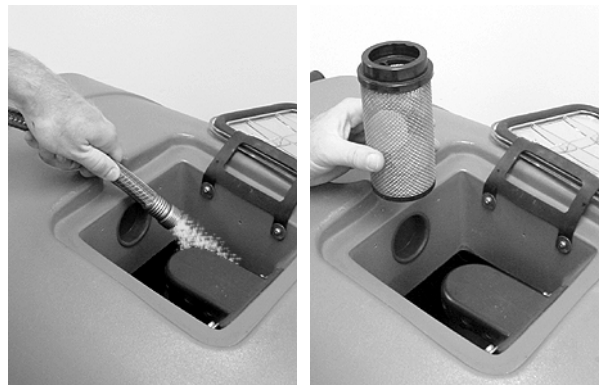

FIG. 23
3. Rinse out the recovery tank and the float shut-off screen with clean water (Figure 23).